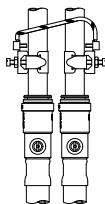

Fig. 10
- 4.15 **Adjacent pipes:** Adjacent suction and delivery pipes should be fitted with earthing clamps to and connected with earthing wire size 4 mm2 (Fig. 10).